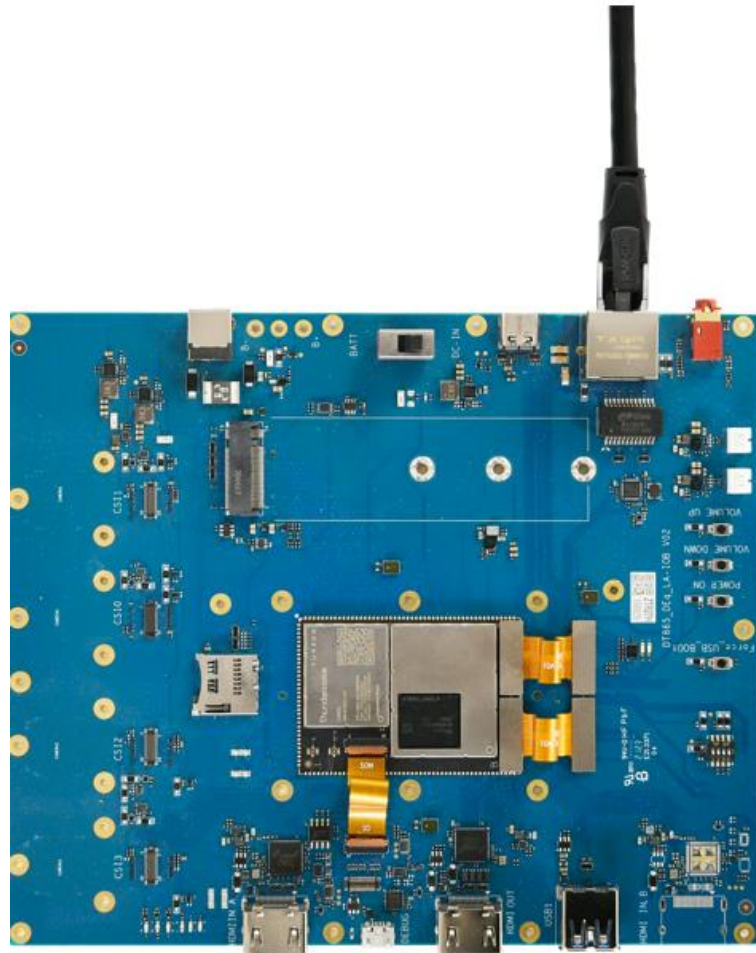

Figure 3-11. Connect Ethernet Cable
Step 1. Connect the board to a local network via an Ethernet cable. Refer to Figure 3-11.